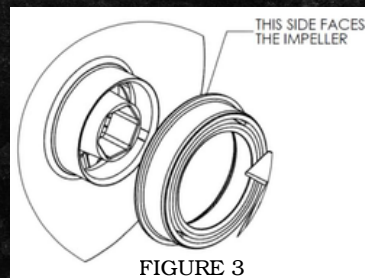

FIGURE 3
8. Install wear ring #9 on the impeller. Orientation is critical — see Figure 3.
13. Install wear ring #9 on the second impeller — see Figure 3.